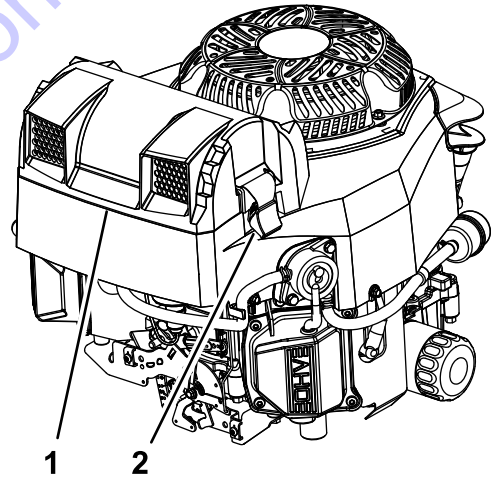

Figure 18
2. Remove the cover to access the air-cleaner elements (Figure 18).
3. Install the cover, and secure it with the latches (Figure 18).